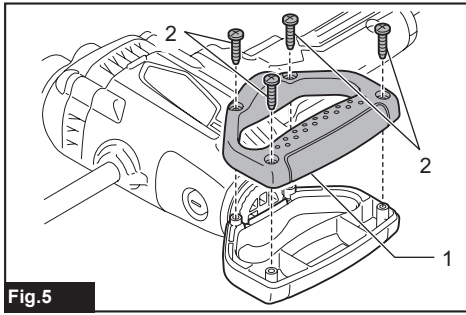

Fig.5
► Fig.5: 1. Rear handle 2. Screw